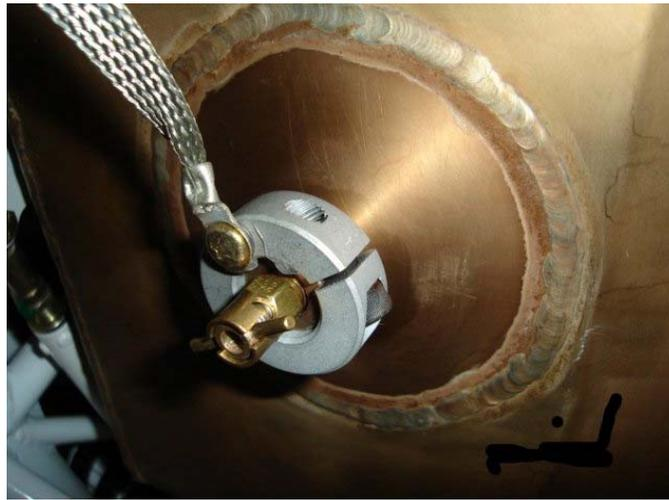
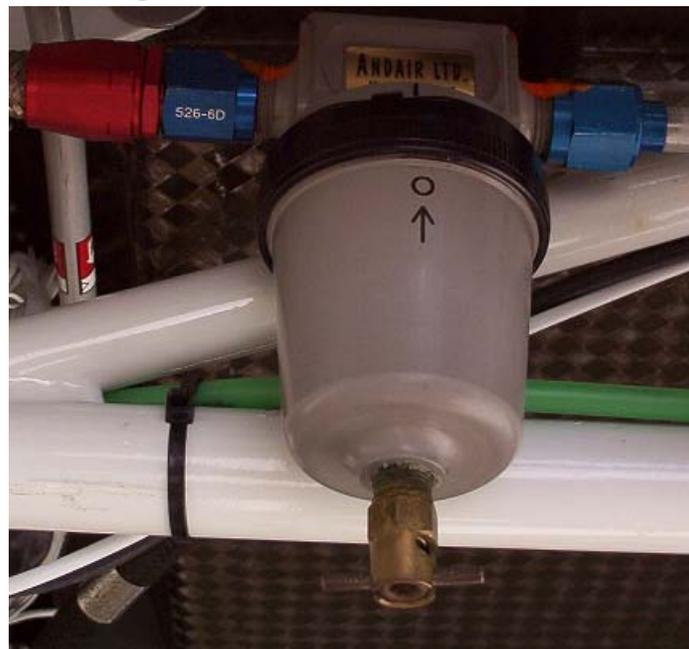

Figure 28-7 Fuel Tank Sump Drain
Figure 28-8 Gascolator Drain
This section provides the information and procedure to drain the fuel tank. Listed below is the required equipment to properly drain or defuel the fuel tank. Figure 28-7 and Figure 28-8 show the two drains for the fuel system.
15. Drain fuel from Gascolator. See Figure 28-8.